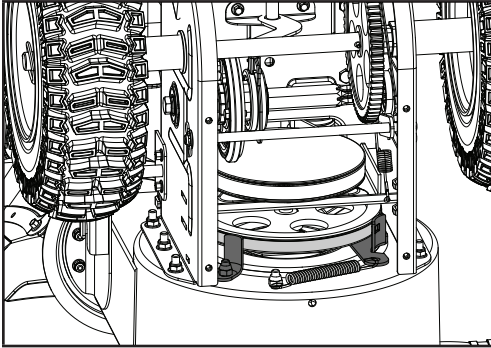

Figure 27
8. Ensure belt is seated below the belt guide on the idler pulley pivot arm (Fig. 27).